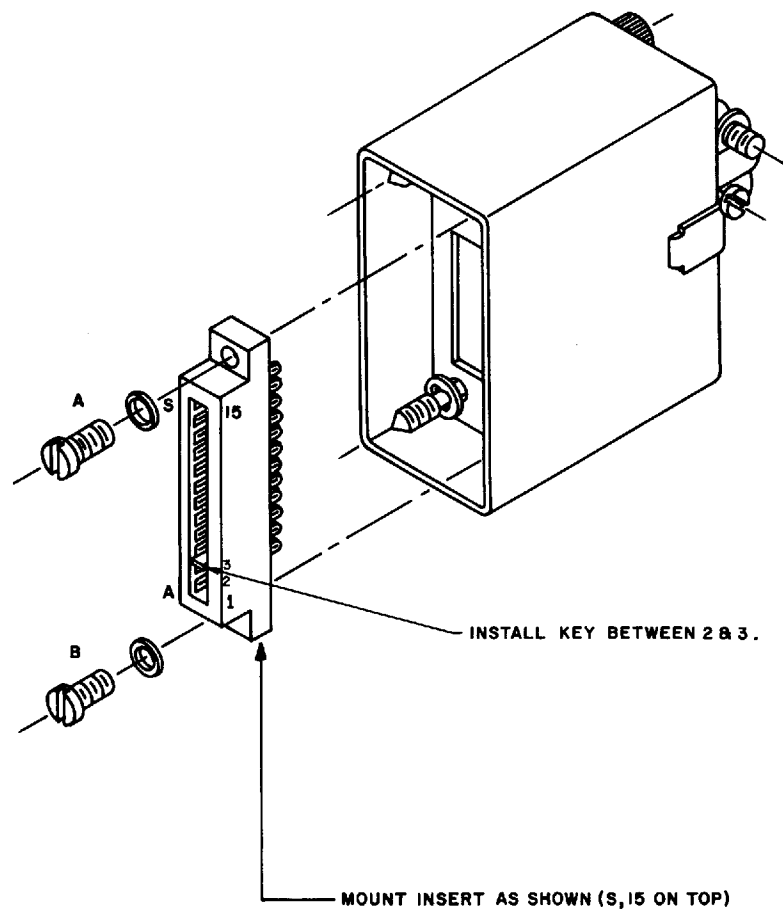

FIG. 1 INSTALLATION OF THE PC-10 MATING CONNECTOR.
INSTALLATION (Refer to FIG. 1)
- 2) Wire the connector terminals and insert the plastic "key" into the correct position (See FIG. 1).
- 3) Re-assemble the connector insert and the connector shell, (See FIG. 1).